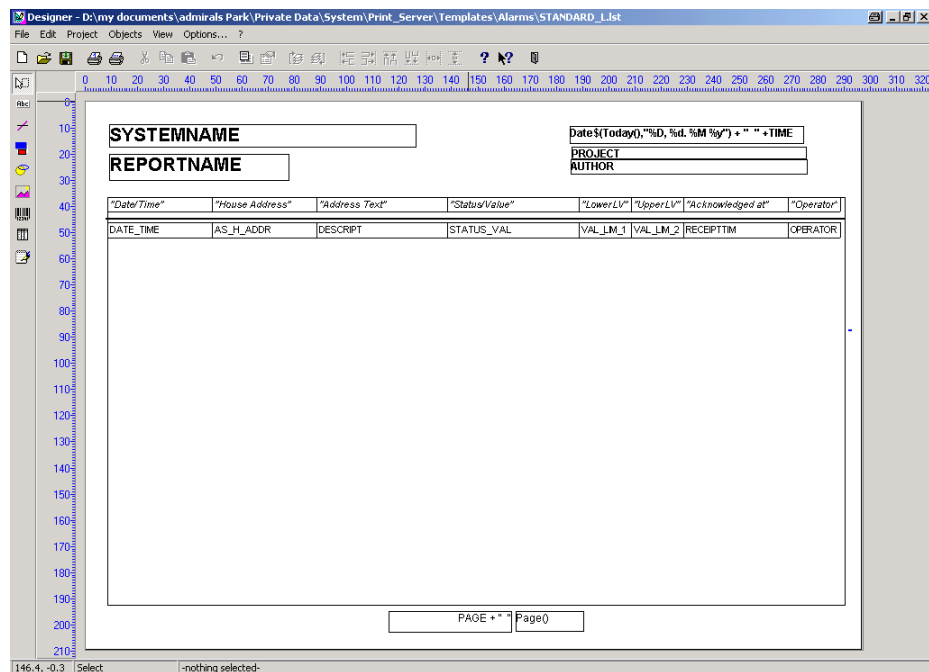

Fig. 6-9: Creating a print template with Designer from List and Label
2. Use the "Open" button to start the "Designer" auxiliary program from "List and Label". The print template can now be adapted to your personal requirements (see Fig. 6-9).